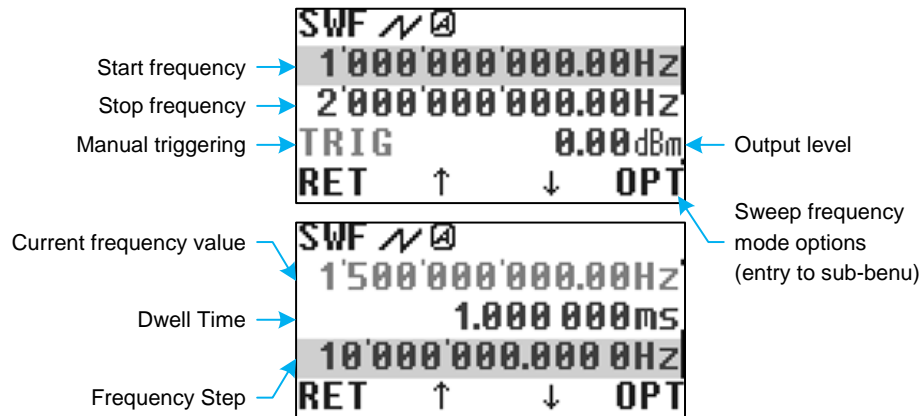

Figure 13: Sweep frequency operation mode menu (Operation Modes▷Sweep Frequency)
SWF mode has the following parameters (fig. 13):
- Manual – triggering event performed manually by pressing TRIG soft-key (see fig. 13);
- Dwell Time – this sub-menu item duplicates the corresponding menu item in fig. 13;
- Frequency Step – this sub-menu item duplicates the corresponding menu item in fig. 13;
- $F_1 - F_2$ – when this option is activated first and second frequency fields shown in fig. 13 correspond to the start and stop frequency, accordingly;
- $F_C \pm \Delta$ – when this option is activated first and second frequency fields shown in fig. 13 correspond to the central frequency and span, accordingly.
For an effective use of ADC resolution the input variable gain amplifier (VGA) is provided, fig. 6. Graphical bar, fig. 13, shows minimums and maximums of sampled signal relative to the full scale of ADC.